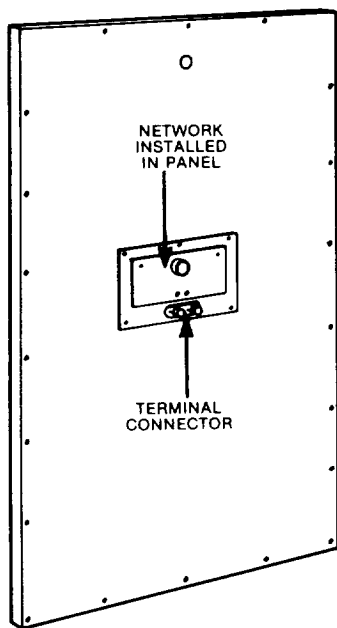

Figure 3. Rear Panel with Network Installed
4. Install network in rear panel (set cross-over frequency to 500 Hz) with four screws. See Figure 3. Also install terminal connector immediately beneath network, using #8 x 1/2" wood screw.